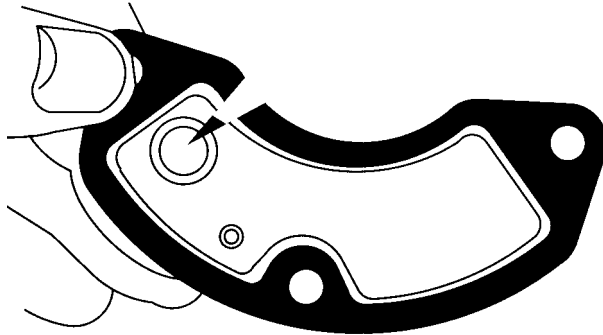

Fig. 8 - Checking Breather
2. Check to see that reed valve is not deformed, Fig. 8.